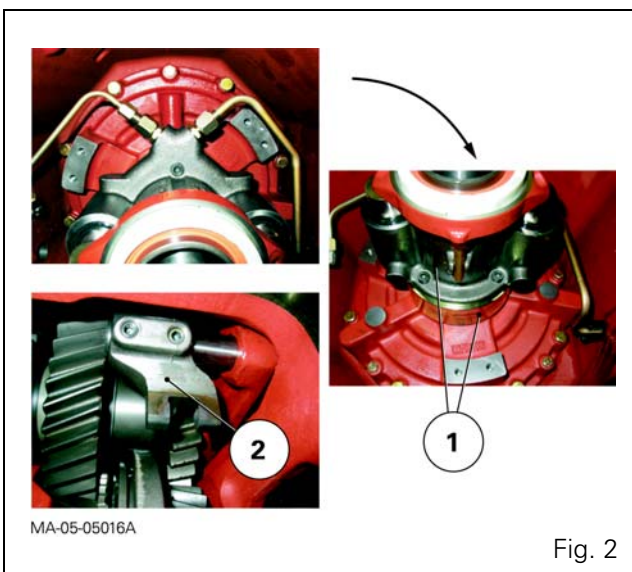

Fig. 2
Description (Fig. 2)
3. Separate the hydraulic unit (1) from the input unit spacer (Fig. 2 and chapter 4)
6. Remove the selector (2) from the mechanical reverse shuttle (Fig. 2).
23. Fit and adjust the selector (2) on the mechanical reverse shuttle (Fig. 2 and chapter 5).